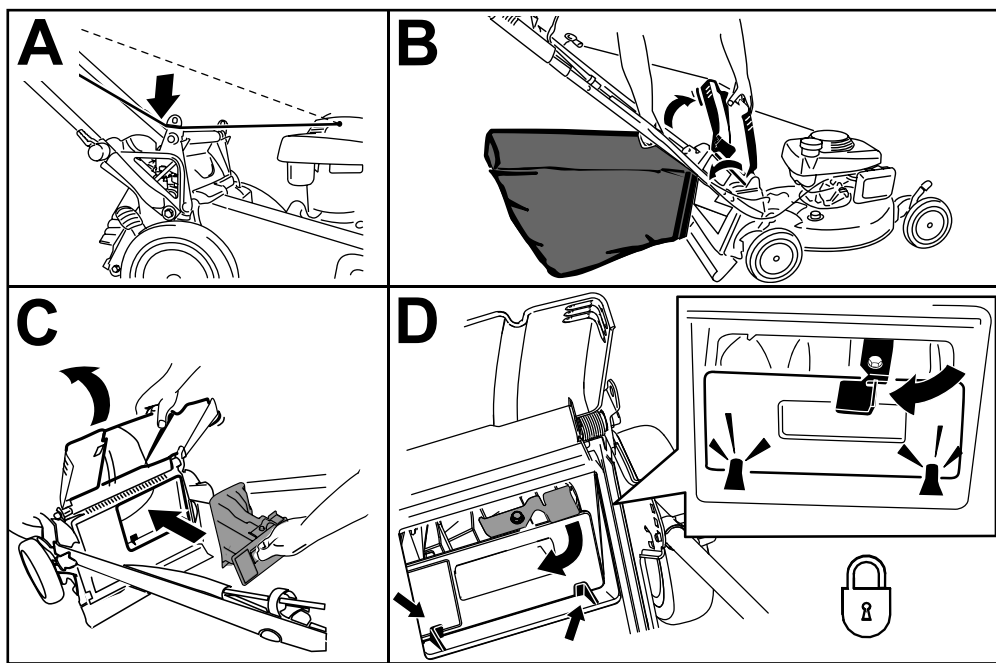

Figure 18
1. Route the starter rope around the lower-rope guide (A of Figure 18).
2. Raise and hold up the rear deflector and lift the grass bag up by the handle off the notches of the handle brackets (B of Figure 18).
3. Install the rear plug (C of Figure 18).
Important: Ensure that the rear plug is locked in place. To lock the plug, firmly push the plug in until it snaps into place behind the tabs, and rotate the lever on the plug to the left (D of Figure 18).